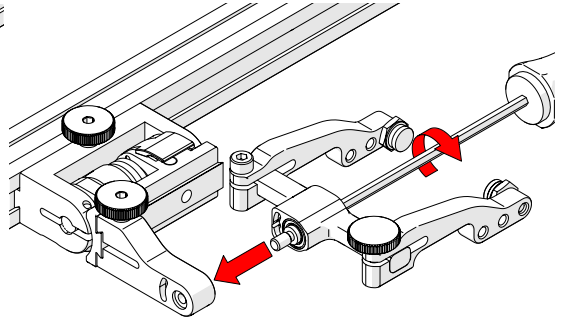

Fig. 97 - Install yoke to swing arm
6. Using the 3 mm hex driver, screw the yoke pivot screw into the opposite side of the probe holder swing arm (Fig. 97). Ensure the yoke is level to avoid issues with the plunger/set screw.